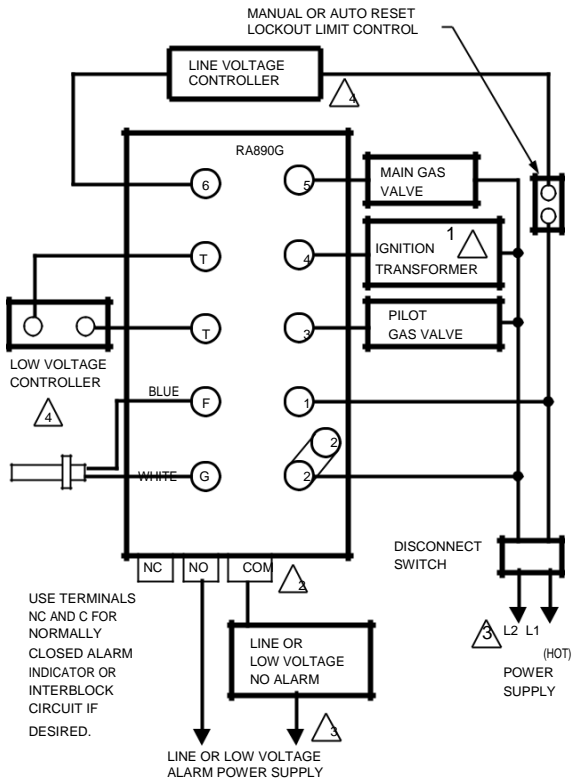

Fig. 2. Gas system with interrupted ignition.
5. Refer to Fig. 2 and 3 for typical field wiring connections. Follow the burner manufacturer's wiring diagram if pro-vided.